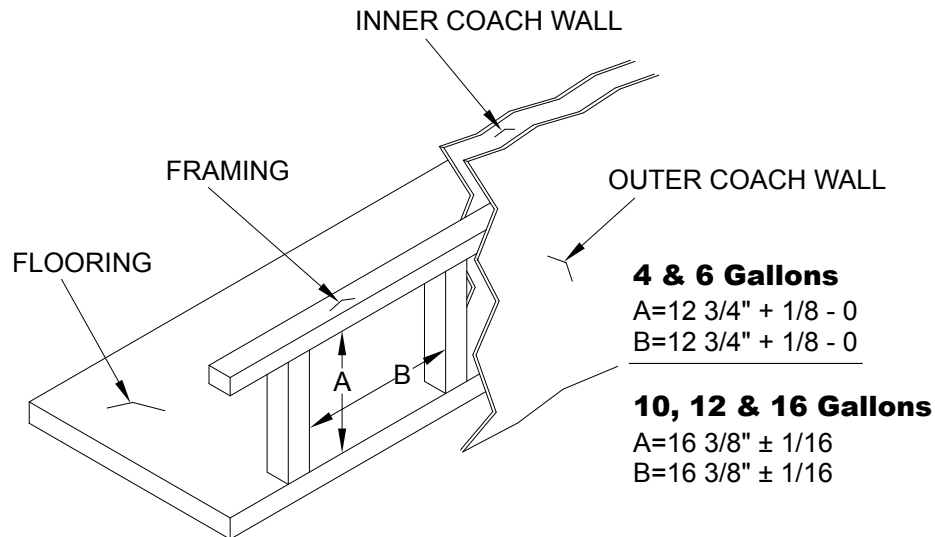
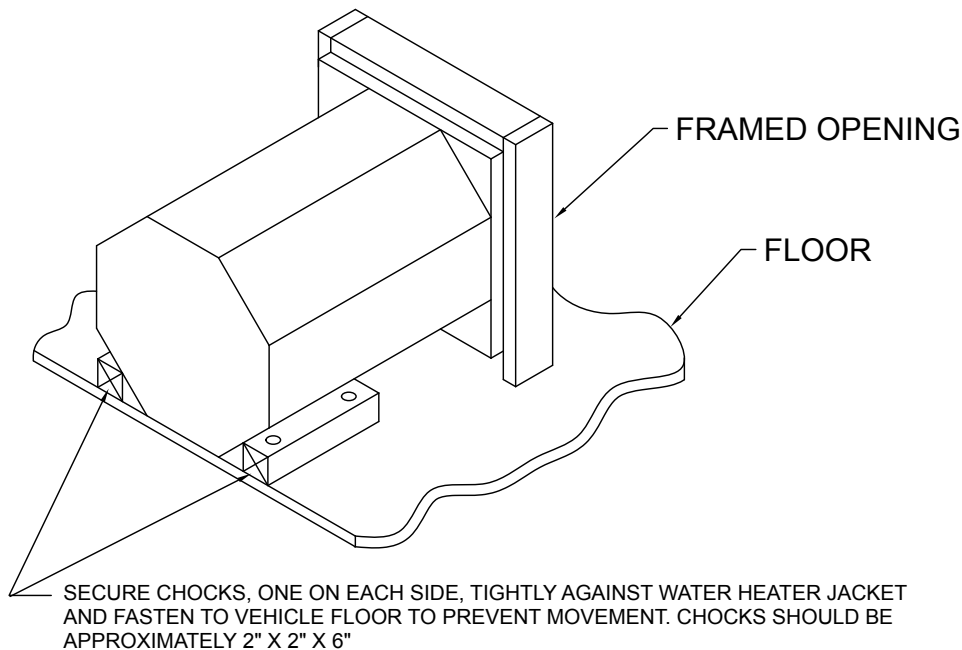

Figure 1
Figure 1A
Provide an opening flush with floor in outer wall of coach. Wall of coach should be framed as shown in Figure 1. Maintain inside dimensions listed below. Do not install on carpet unless the carpet is covered by a metal or wood shield covering the entire area underneath the water heater. If preferred, cut away the carpet from this area. Chocks must be in place to secure rear of unit (See Figure 1A).
- C. Install chocks, one on each side of water heater, as illustrated in Figure 1A.
- H. Install chocks, one on each side of water heater, as illustrated in Figure 1A.